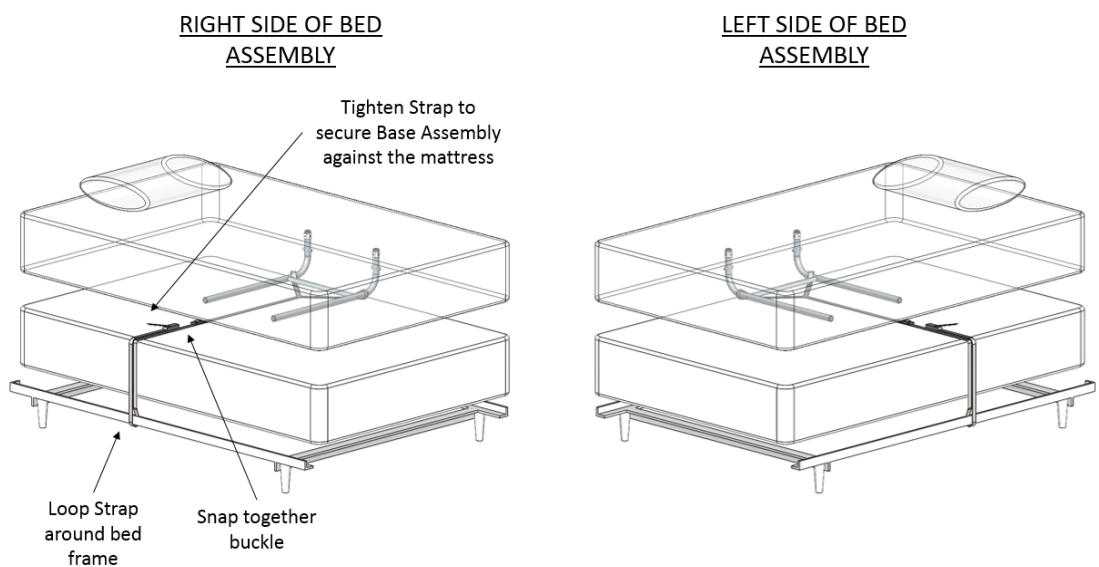

FIGURE 5
5. Secure the SAFETY STRAP to the bed frame, as shown in Figure 5. Unbuckle strap and loop strap around bed frame and re-buckle. Tighten strap to secure Base Assembly against the mattress.